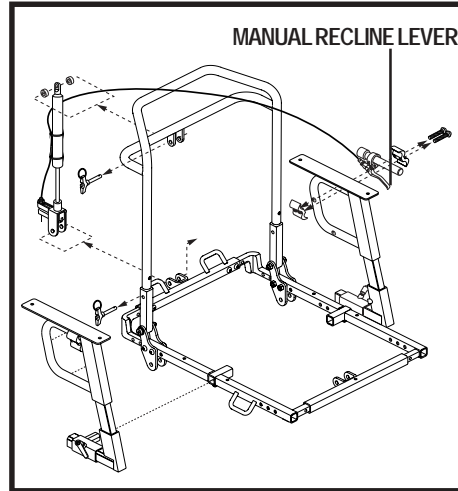

Figure 3. Manual Recline Seatback Adjustment
Your seat may be equipped with a manual recline lever that allows you to adjust the seatback angle from the minimum recline position (90° from the seat base) to the maximum recline position (135° from the seat base). See figures 3 and 4.
1. With your back pressed firmly against the seatback, squeeze the manual recline lever mounted to the armrest. See figure 3.